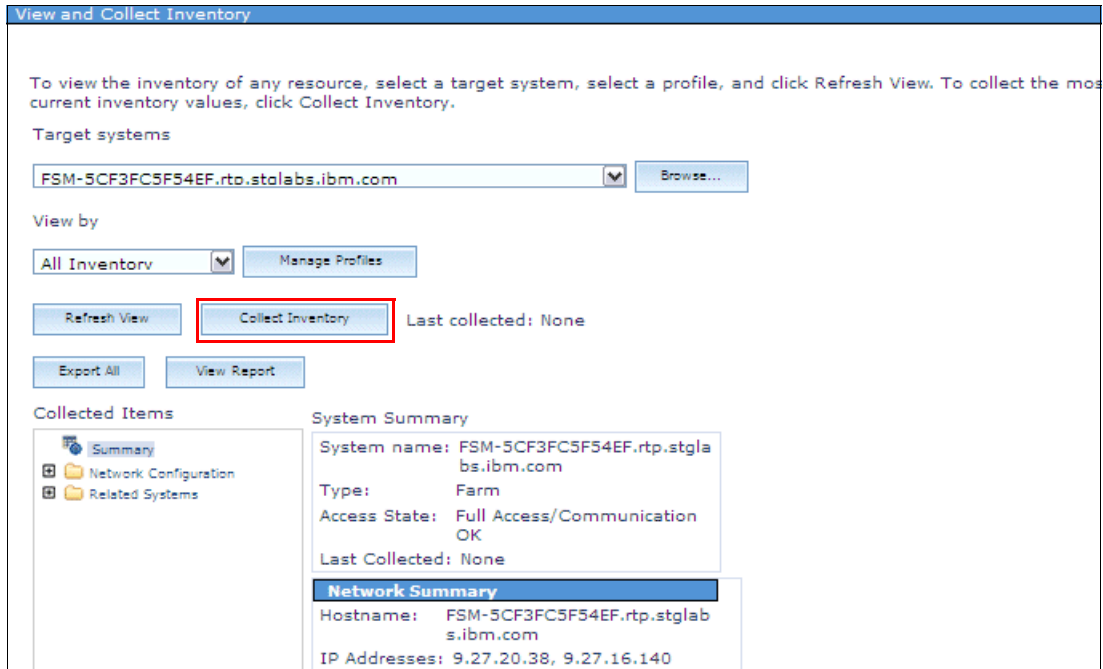

Figure 6-142 Collect Inventory on V7000 Farm object discovered
3. Click **Collect Inventory** to begin the inventory collection as shown in Figure 6-142.